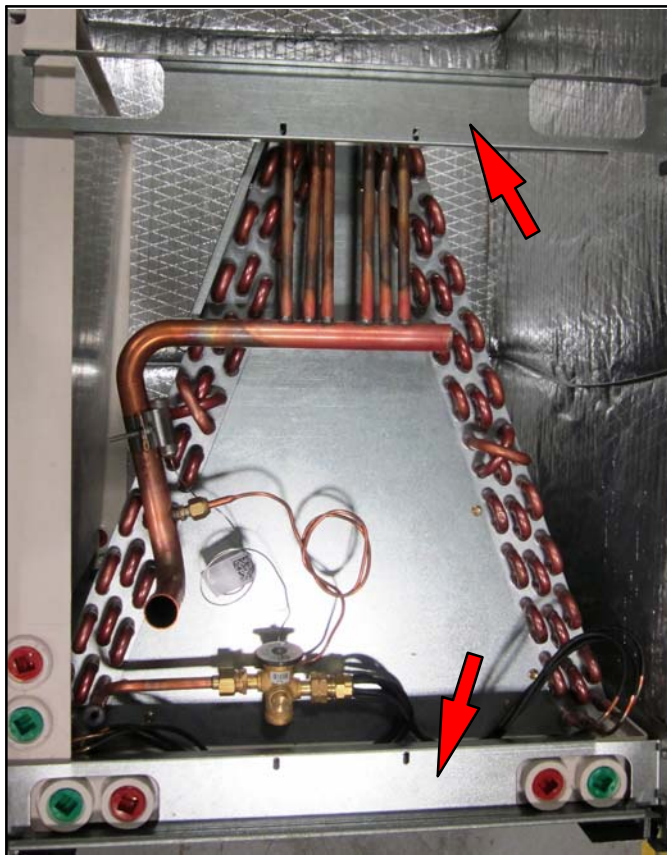

Figure 4. Remove Main Drain Pan Mounting Brackets
2. Remove brackets securing pan to unit. See figure 4.